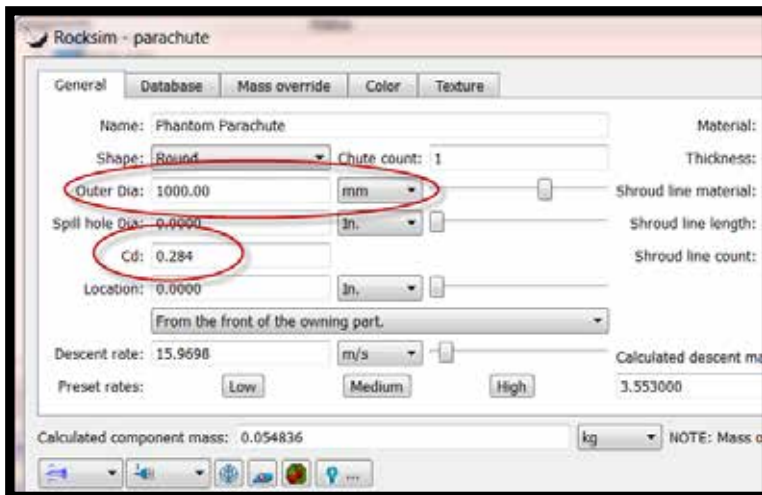
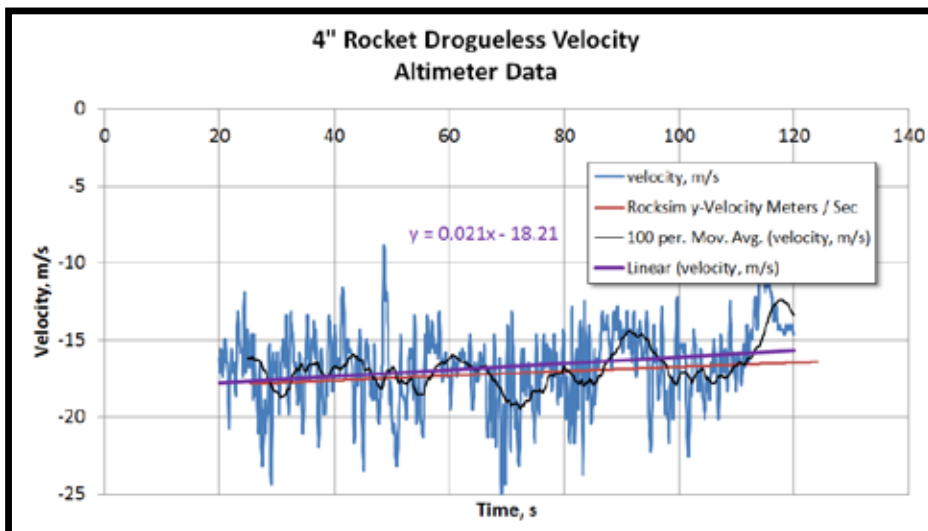

Figure 11. Improved phantom parachute descent properties.
Figure 12. RockSim simulation with improved phantom chute added to the altimeter plot.
Returning to the phantom parachute properties in **Figure 11**, any values of drag coefficient and area can be used to compute the proper $C_D A$. I use a circular diameter of 1 m to keep things simple, and the area works out to be $\pi (1)^2/4 = 0.785 \text{ m}^2$. To give a $C_D A$ of 0.223, the C_D comes to 0.284. Re-running the simulation and plotting the RockSim drogue velocity gives the result in **Figure 12**. There is now a better match between the simulation and the altimeter straight line velocity. More precise tuning of the phantom drag